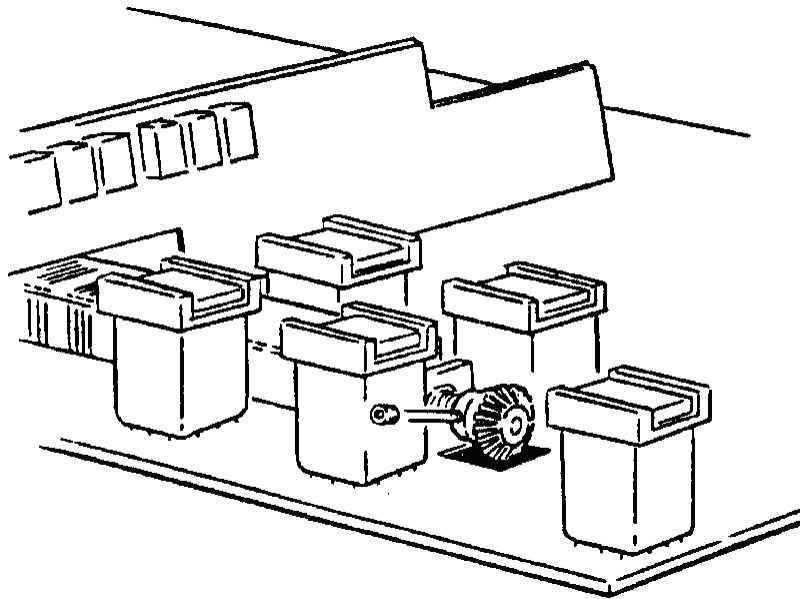

Figure 2-15. Switch gear replacement.
f. **Remove the Switch Gear Assembly.** Use a .050 hex wrench to loosen the hex screw holding the switch gear on its shaft (figure 2-15). The gear should slide off.